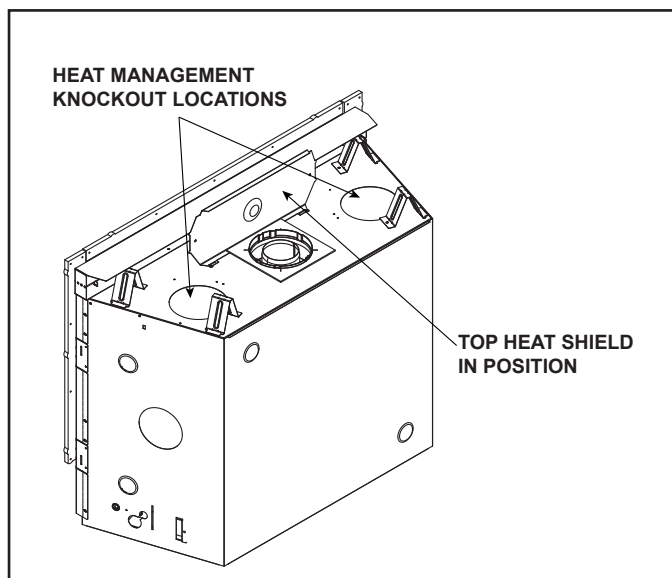

Figure 6.2 JADE42IN-B / JADE42IL-B
2. Fold up top heat shield to 90 degrees as shown in Figure 6.2.
- Locate the two heat management ports on the top of the appliance. Either one or two Heat-Zone® -Gas Kits may be installed. See Figure 6.2. Remove the knockouts from the appliance with a tin snips.